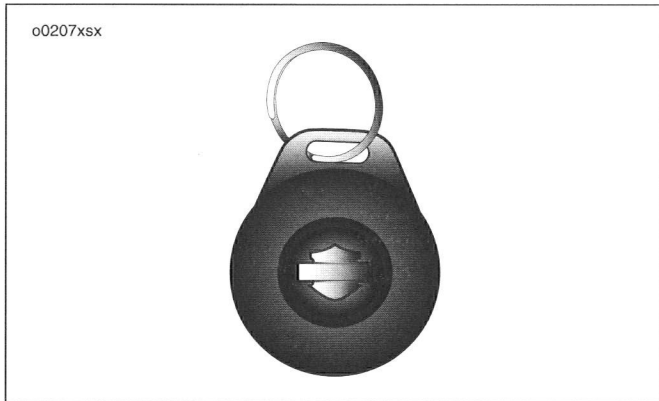

Figure 35. Key FOB
- **Remote arming/disarming:** See Figure 35. Owners may enable and disable security alarm and immobilization functions with a remote, personally carried transmitter. This transmitter is referred to as a key **FOB** within this document.